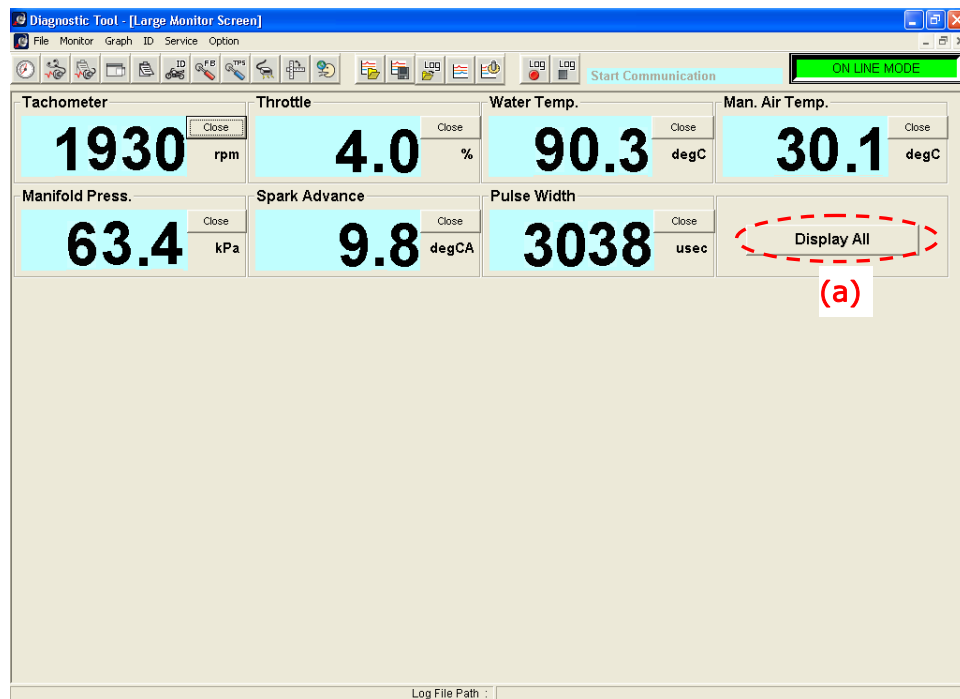

Fig. 5-2-2
- (3) Pressing the [**Display All**] button (Fig. 5-2-2 (a)) will display all un-displayed data items. Use this command when you wish to see all of the un-displayed items after closing them.